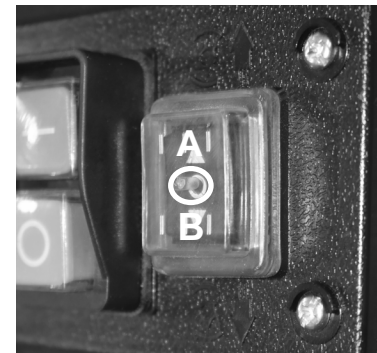

Fig. 12
Position A (Fig. 12)
Position B (Fig. 12)
1. Set the reversing switch to position B (Fig. 12).